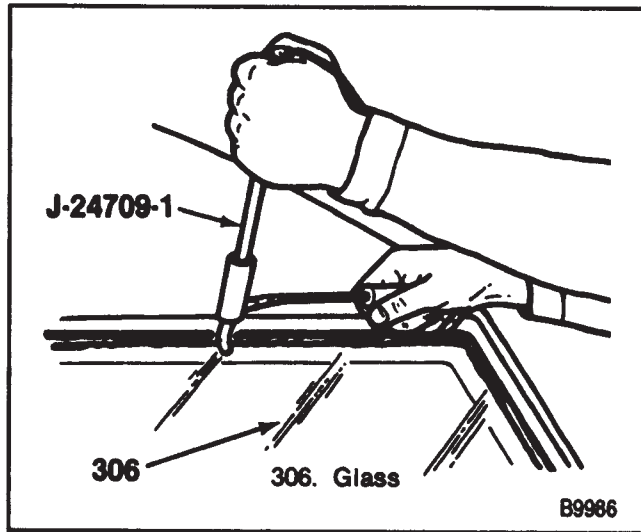

Figure 4—Cutting Windshield from Window Frame
- Keep the blade against the window edge, and cut the sealant from the windshield (figure 4).